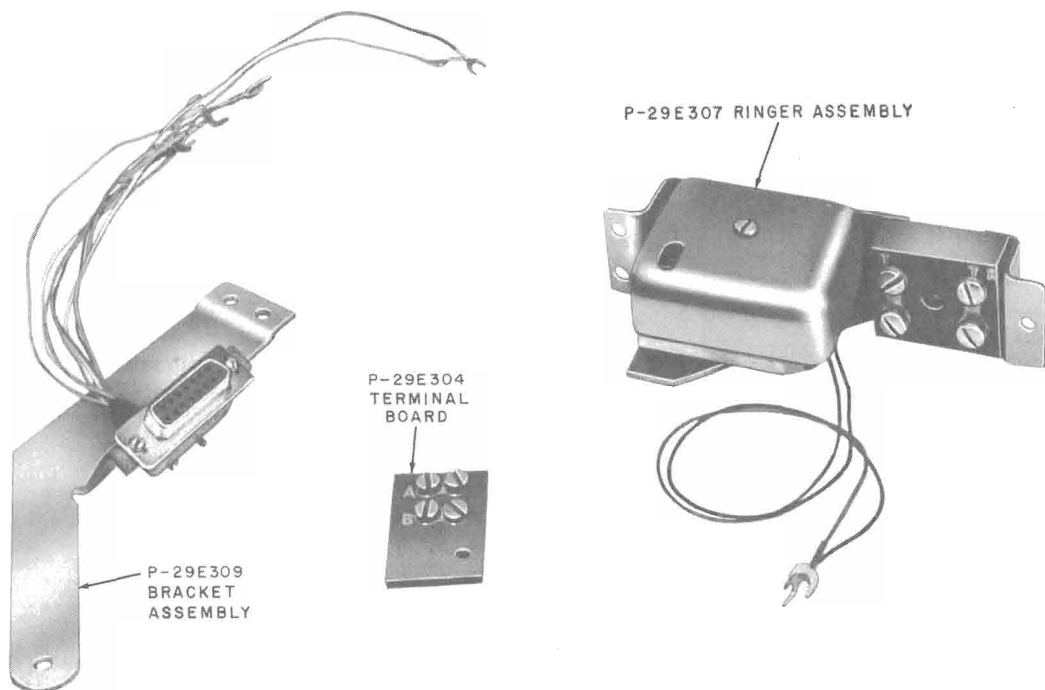
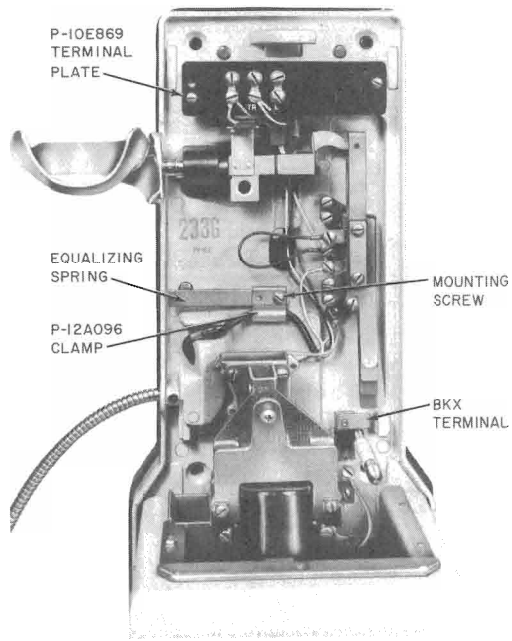

Fig. 68—D-180120 Kit For Modification of Backplate Assembly
Fig. 69—Backplate Assembly With D-180120 Kit
- 7.02** The D-180120 kit to be installed in the field consists of P-29E307 ringer assembly, P-29E309 bracket assembly, and P-29E304 terminal board (Fig. 68).
- (1) Disconnect wires per Table M.
- (2) Remove subscriber set.
- (3) Disconnect (BK) wire from between BBX of switchhook and BB of transfer contacts.
- (4) Remove and discard terminal plate assembly at top of backplate assembly. Retain hardware.
- (5) Install P-29E307 ringer assembly (Fig. 68) in same position as terminal plate assembly was located using the retained hardware (Fig. 69).
- (6) Remove and discard BKX transfer spring at right of coin relay. Retain mounting screw.
- (7) Remove and retain equalizing spring, cord clamp, and associated fastener.
- (8) Install P-29E309 bracket assembly (Fig. 68) to backplate per Fig. 69. Use mounting screw retained in (5) to secure bracket assembly at bottom.
- (9) At top of bracket assembly, assemble in order from backplate out, equalizing spring, cord clamp, and P-29E304 terminal board (Fig. 68). Secure with hardware retained in (6) (see Fig. 69).
- (10) Route wires through cord guides where applicable and connect per Table N.
- (11) Insert plug of upper housing, which was modified in the Distributing House, in connector on backplate and install upper housing.
- (12) Check continuity, coin handling, and ringing operation of the coin collector.